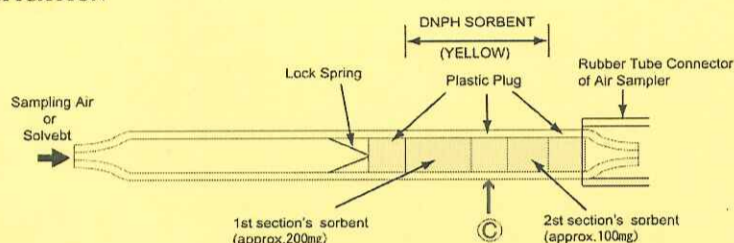

Fig. 1
- ① Cut the Tube 811 at the point C (Fig.1). Take off the lock spring and Plastic plugged on the 1st section's sorbent. Remove the 1st section's sorbent and put into a sample vial completely.
- ② Take off the Plastic plugged on the 2nd section's sorbent. Remove the 2nd section's sorbent and put it into another sample vial completely.
- ③ Pour the Acetonitrile as a desorption solvent into above both sample vials, put on the lid, shake them every 5 ~ 10 minutes for approx. 30minutes. Use HPLC grade Acetonitrile at a flow rate of 1mL/min. Analyze the blank value of tube from this solution by HPLC (n=3 ~ 5).
- ③ Pour the Acetonitrile as a desorption solvent into above both sample vials, put on the lid, shake them every 5 ~ 10 minutes for approx. 30 minutes. Use HPLC grade Acetonitrile at a flow rate of 1mL/min. Analyze the blank value of tube from this solution by HPLC (n=3 ~ 5).